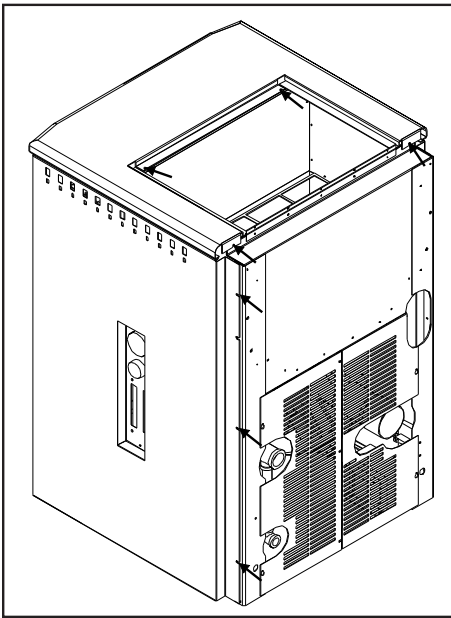

Figure 10
1. Remove the top by loosening the two (2) screws at the back and remove the two (2) under the hopper lid shown in Figure 10. Pull the top up at the back and slide it forward.